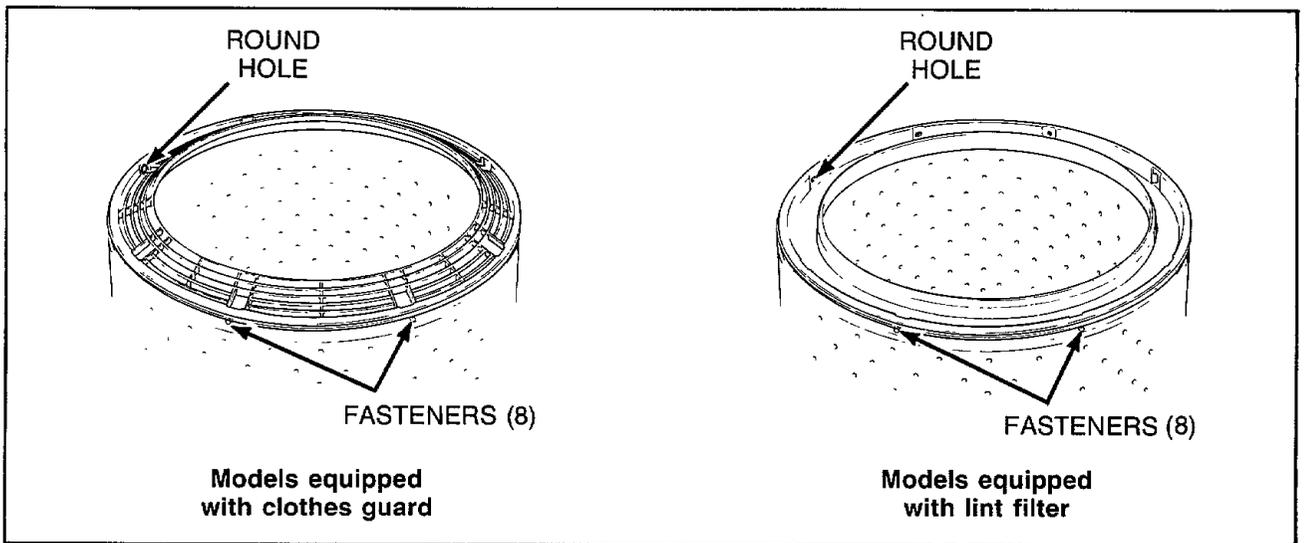

Figure 28
- Remove the eight fasteners holding clothes guard or lint filter to washtub, *Figure 28*.
NOTE: When installing clothes guard or lint filter, it is necessary to start the first fastener in the round hole, *Figure 28*. Place the remaining fasteners in their respective holes.